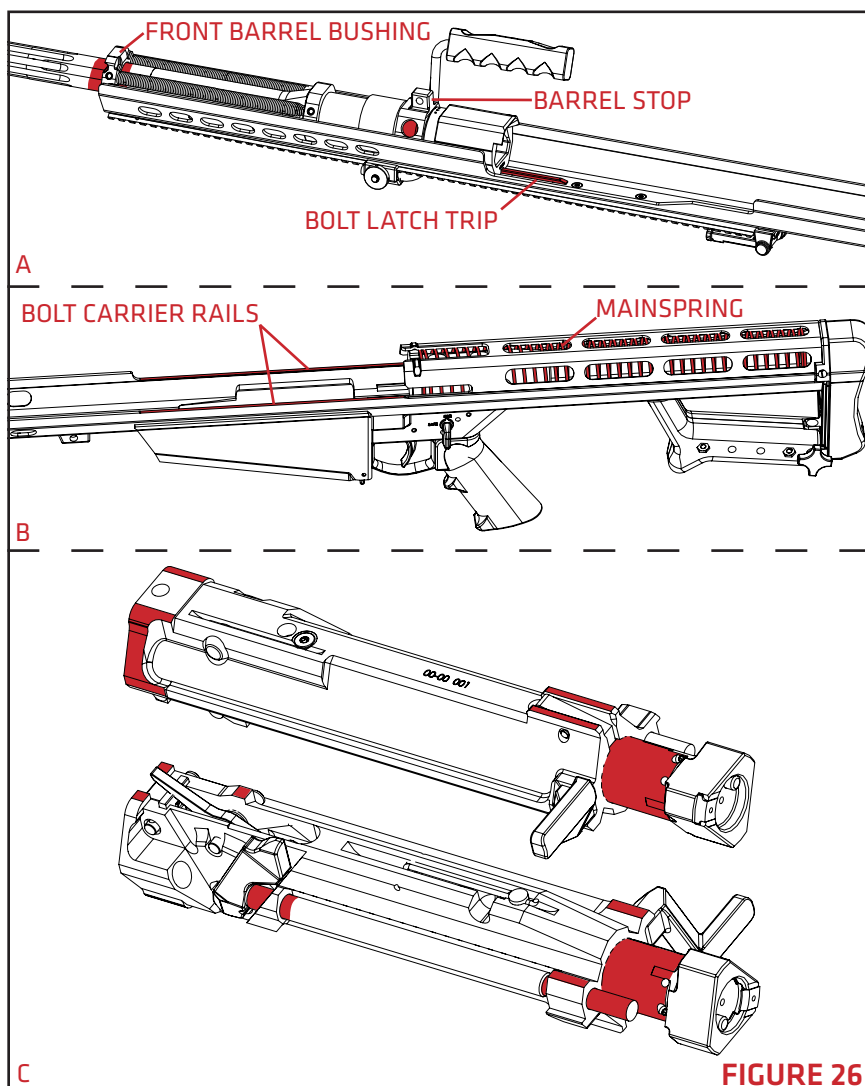

FIGURE 26
8. Lubricate the upper receiver along the bolt latch trip and the barrel at the barrel stop and front barrel bushing (**FIGURE 26-A**).
9. Lubricate the lower receiver along the bolt carrier rails, mainspring, and mainspring housing (**FIGURE 26-B**).
10. Lubricate the exterior surfaces of the bolt carrier and the neck of the bolt (**FIGURE 26-C**).